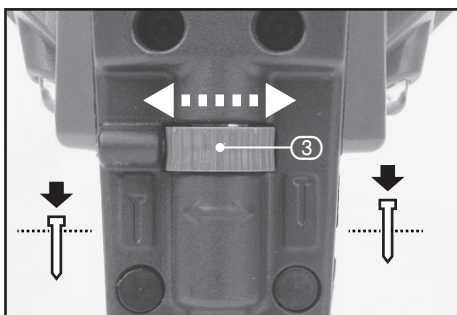

FIG.11
9.3 DEPTH ADJUSTMENT WHEEL – FIG. 11